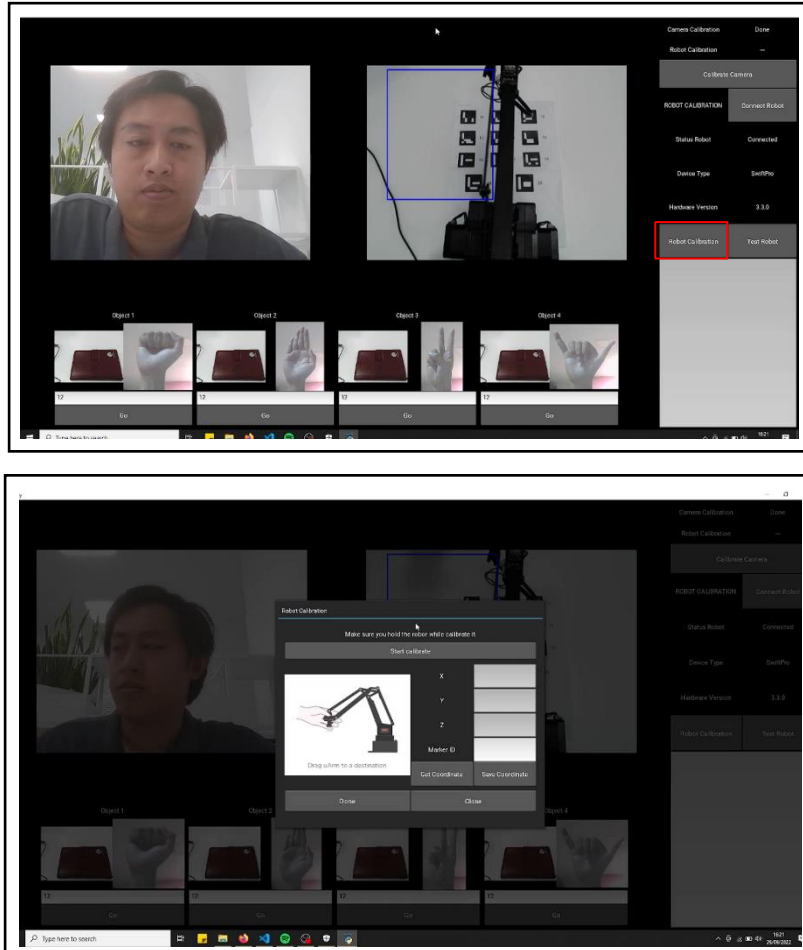

Figure 14. Robot Calibration Button
2. After you click it, it will appear Robot Calibration interface like *Figure 14*